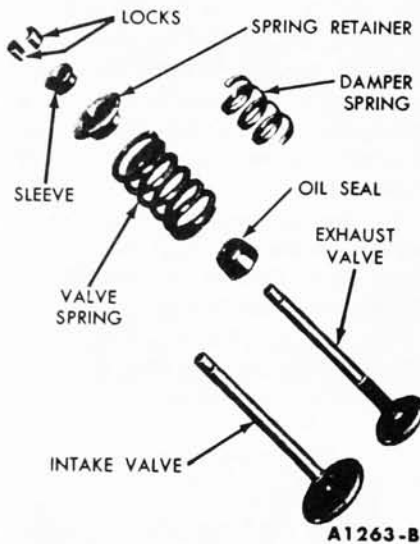

FIG. 48—Valve Assembly
1. Install each valve (Fig. 48) in the port from which it was removed or to which it was fitted. Install a new stem seal on the valve.